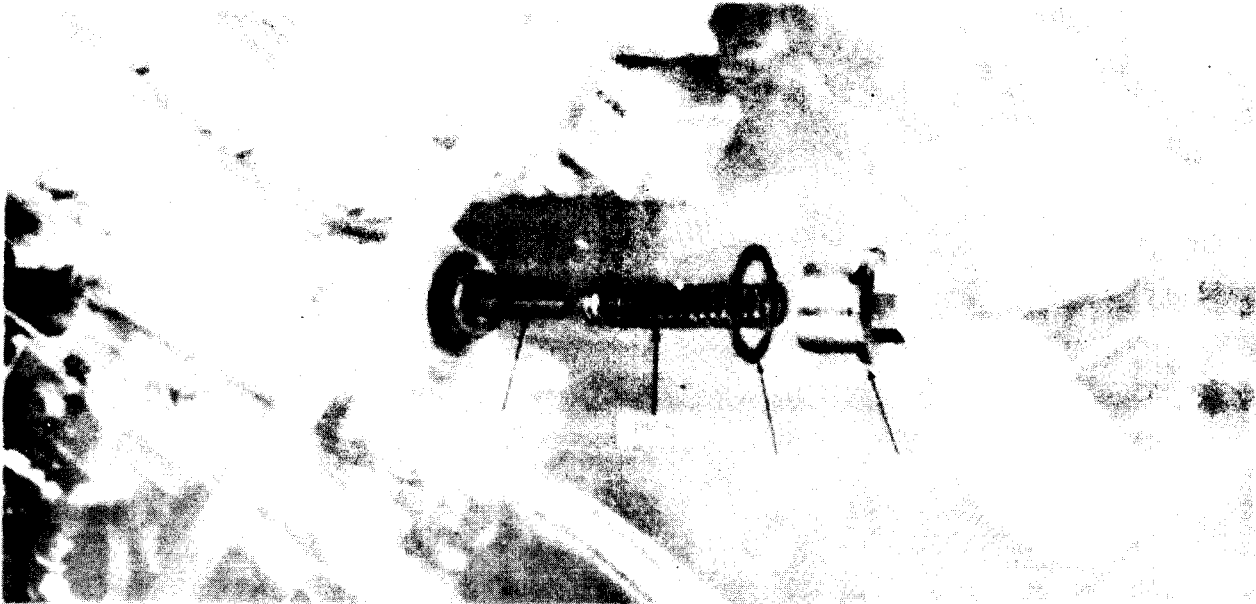

Figure 2-109. Removing or installing oil filter bypass valve.
(1) Remove oil filter bypass plug (fig. 2-109). Remove and discard gasket.
(2) Remove bypass valve spring and bypass valve.
(1) Install bypass valve (fig. 2-109). Position bypass valve spring on valve.
(2) Install plug using new gasket.